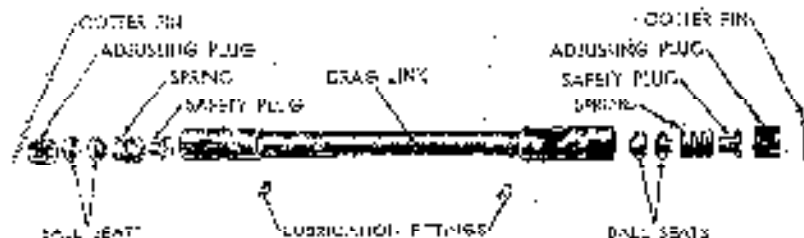

Figure 268. Drag link assembly - exploded view.
- (2) Remove cutter pin (fig. 268) from drag link.
- (3) Unscrew adjusting plug (fig. 268) as far as possible without removing it from end of drag link.